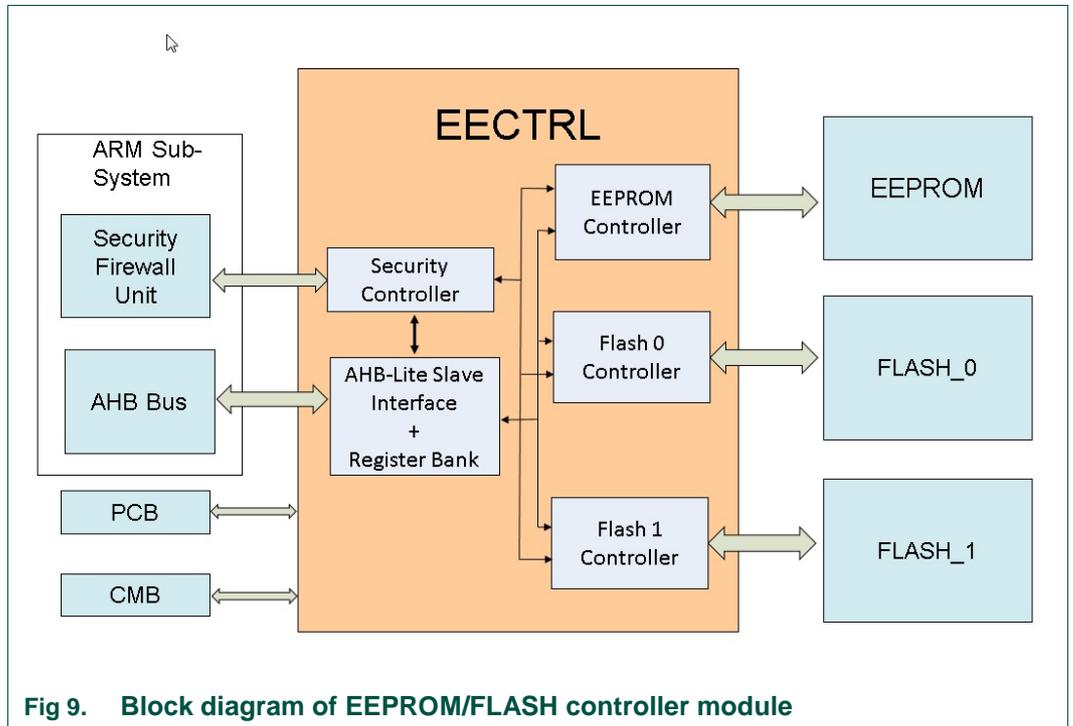

Fig 9. Block diagram of EEPROM/FLASH controller module
- Implementing security bits (at boot time the EEPROM first word is read. Part of those bits are controlling the Flash access and the CMB enabling. These bits are available in a register). Fig 9 shows the block diagram EEPROM/flash controller module